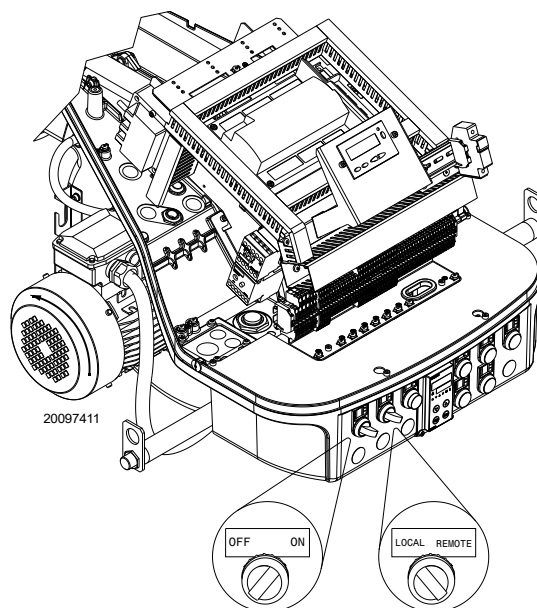

Fig. 33
Close the thermostats/pressure switches, set the parameters on the RWF 55 regulator. Please refer to the specific manual for this operation. Turn the switch of Fig. 33 to position “ON” and turn the switch of Fig. 33 to position “LOCAL”.
Make sure that the lamps or testers connected to the solenoids, or indicator lights on the solenoids themselves, show that no voltage is present. If voltage is present, stop the burner **immediately** and check the electrical wiring. When the burner starts, check the direction of the motor rotation, as indicated in Fig. 33.
- place the switch of Fig. 33 in position “0” and wait for the control box to carry out the switch-off phase;